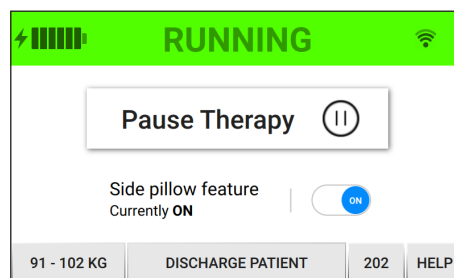

Figure 13. Discharge patient button
1. To stop therapy at the end of patient use, press Discharge Patient at the bottom of the running or paused screen. (Fig. 13)